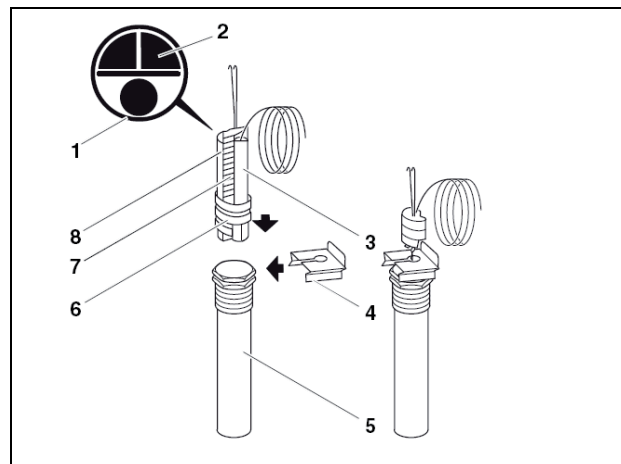

Fig. 6 Immersion sensor assembly
- Insert the immersion sensor pack (Fig. 6, [1]) until it bottoms out inside the sensor well (Fig. 6, [5]).
During insertion the plastic spiral (Fig. 6, [6]) – holding the sensor pack together – slides back automatically.
Insert the compensation spring (Fig. 6, [7]) and the spacers (Fig. 6, [2] + [8]) together with the sensor into the sensor well. These act to push the temperature sensor against the wall to provide improved heat conductivity.
- Slide the sensor holder (Fig. 6, [4]) laterally over the sensor well head. This prevents the sensor from sliding out of the well.
In this case only the sensor (Fig. 6, [1]) are used – remove the compensating spring and the dummy pieces.